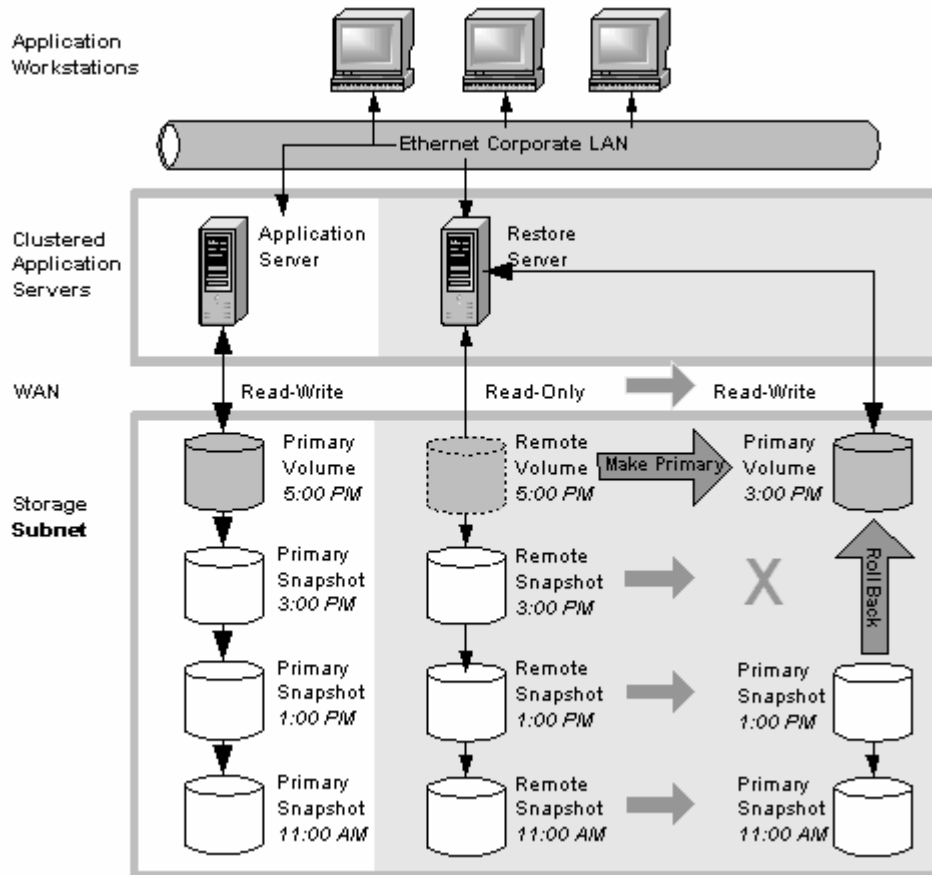

Figure 20 Non-destructive rollback from the remote snapshot
- To roll back the remote snapshot, you must first make the remote volume into a primary volume. This will stop scheduled creation of remote snapshots, which may jeopardize your high availability, disaster recovery, or routine backup strategies. Figure 20 on page 53 shows rollback of the remote snapshot.